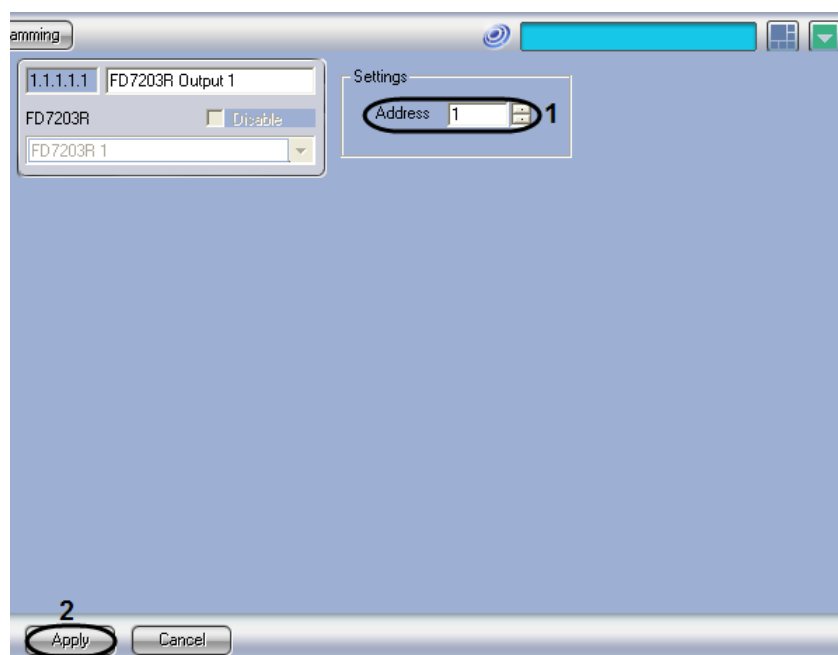

Fig. 3.6—12 Configuring outputs of the FD7203R addressable module
1. Go to the settings panel of the “FD7203R output” object (Fig. 3.6—12).
2. Enter the CAN network address of the FD7203R module output into the “Address” field (see Fig. 3.6—12, 1).
3. To save the settings into the Intellect internal DB, click the “Apply” button (see Fig. 3.6—12, 2).